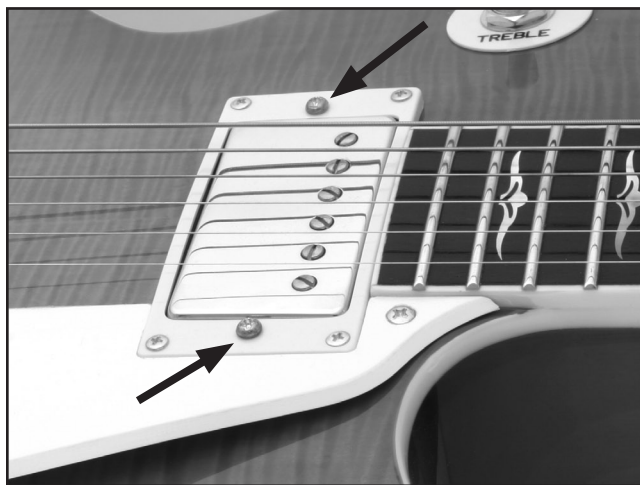

Figure 43. Pickup height adjustment.
4. Adjust the screws shown in **Figure 43** until the gap between the strings and the pickup is $\frac{3}{32}$ ".
5. Measure the bridge pickup and adjust the screws shown in **Figure 43** until the gap between the strings and the pickup is $\frac{1}{16}$ ".